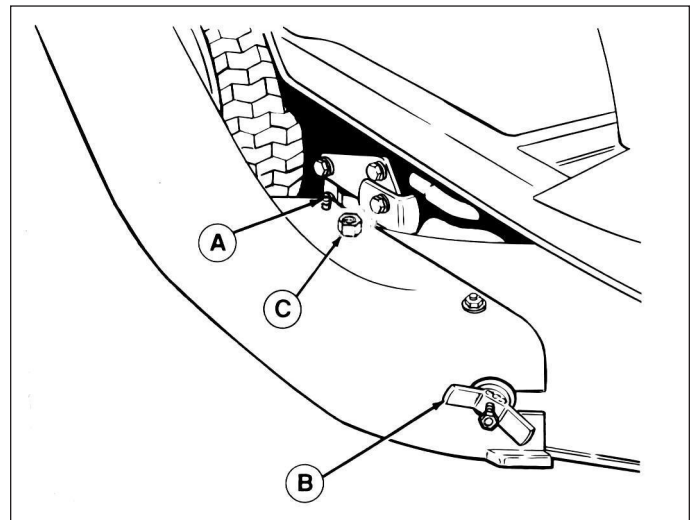

Figure 12.
1. Place adapter over rear carriage bolt (A, figure 12) and position front slot of adapter between mower deck and wing nut (B). Install jam nut (C) on carriage bolt. Securely tighten both jam nut and wing nut.